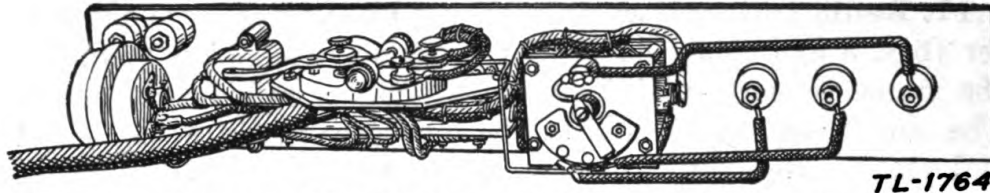

FIGURE 7.—Radio control box BC-235 or BC-235-A, interior view of panel assembly.
13. Radio control box BC-235 or BC-235-A.—The control box, shown in the upper part of figure 5, is contained in a metal case and is mounted on the frame by means of two bolts and wing nuts. The circuit elements are mounted on the panel, an interior view of which is shown in figure 7. This panel assembly may be removed from the case by unscrewing the knob of the transmitting key which